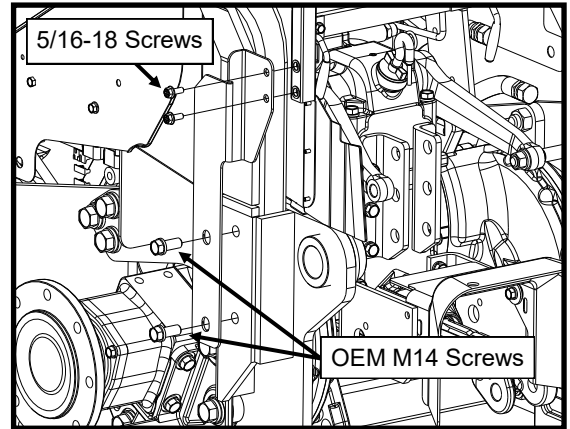

Figure 8.1: Left Lower Rear Panel Bracket
- 8.2 Fasten the left lower rear panel bracket to the vehicle using the OEM bolt (see Figure 8.1, wheel and backhoe hidden for clarity). Leave hardware loose.